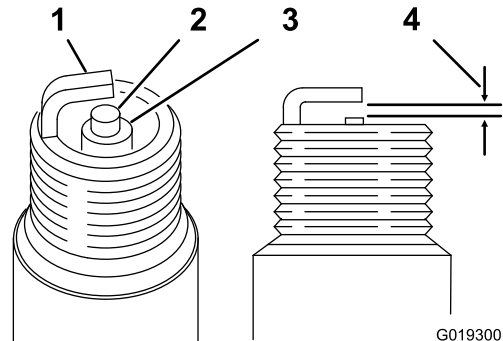

Figure 16
**Air Gap:** 0.70 to 0.80 mm (0.028 to 0.031 inch); refer to Figure 16.
3. Set the air gap to 0.70 to 0.80 mm (0.028 to 0.031 inch) as shown in Figure 16.